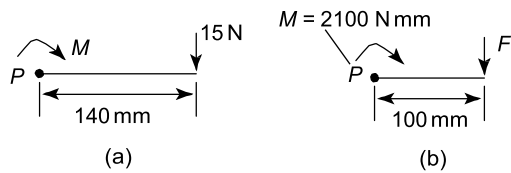

Figure 5.2
From above,  $M = F \times d$ , where  $M$  is the turning moment,  $F$  is the force applied at right angles to the spanner and  $d$  is the effective length between the force and the centre of the nut. Thus, with reference to Figure 5.2(a):
- becomes 100 mm (see Figure 5.2(b)). Applying